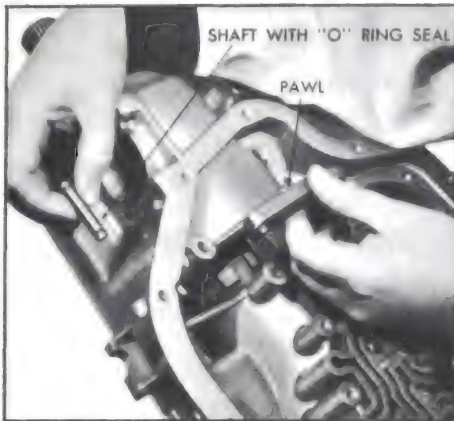

Figure 5-687
2. Install the parking pawl, tooth toward the inside case and parking pawl shaft. See Figure 5-687.